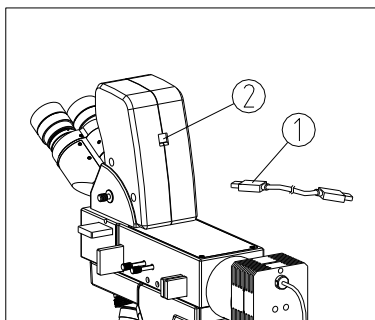

Fig.40
Insert the connector① of USB data cable into the USB interface② on the back of microscope head, and insert the other connector into the USB interface of the computer (See Fig.40), view the microscope video by video capture and analysis software, and also can use binocular observation.